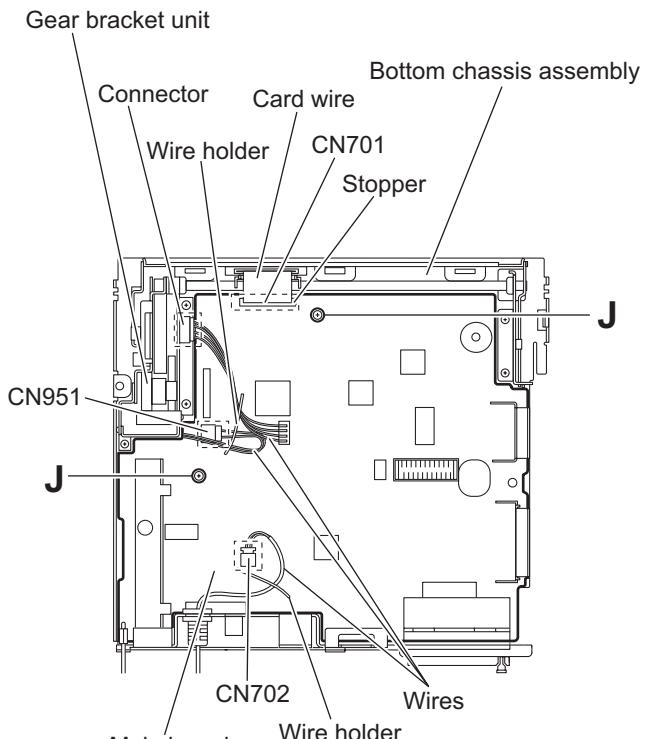

Fig.11
- (2) From the top side of the bottom chassis assembly, remove the two screws **J** attaching the main board to the bottom chassis assembly. (See Fig.11.)
- (3) Release the stopper of the connector CN701 on the main board in an upward direction, disconnect the card wire from the connector CN701. (See Fig.11.)
- (4) Disconnect the wire from the connector of the gear bracket unit. (See Fig.11.)
- (5) Disconnect the wire from the connector CN702 and connector CN951 on the main board. (See Fig.11.)